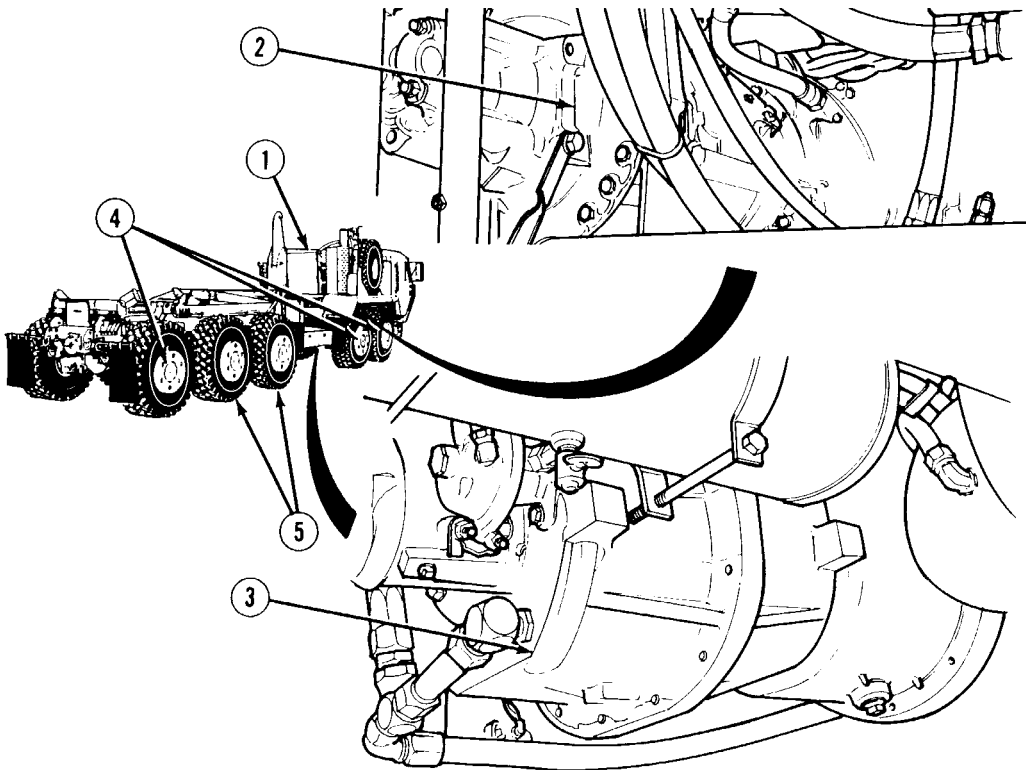

Figure 1-5. Power Train
Power for the truck is provided by a diesel engine (1) (Figure 1-5) which is coupled directly to an automatic transmission (2). Power from the transmission is transferred to the transfer case (3) and on to the drive and steering axles (4) and the drive only axles (5) through a series of drive shafts and universal joints. The truck drive train is enhanced through the use of the Detroit Diesel Electronic Control II (DDEC II) or Detroit Diesel Electronic Control III/IV (DDEC III/IV) electronic engine controller and the Allison Transmission Electronic Control (ATEC) electronic transmission controller. The primary components of the ATEC system are an Electronic Control Unit (ECU) and shifter in the truck cab, an electrohydraulic valve module beneath the transmission gearing section that contains solenoid valves for clutch control, a throttle sensor that is activated by the accelerator pedal and an output speed sensor that relays the transmission output speed to the ECU for shifting and control functions.
(1) The DDEC II and DDEC III/IV contain a microprocessor-based electronic control module to regulate the electronic distributor unit. This distributor unit controls the individual or unit injectors that regulate both the amount and timing of fuel delivery. The DDEC II and DDEC III/IV electronically govern engine speed and can be programmed to accommodate truck configuration changes. The DDEC II and DDEC III/IV are electronically linked with the transmission, through the ATEC, to improve truck performance.
(2) The DDEC and ATEC systems perform self diagnostics, engine/transmission system diagnostics and truck performance diagnostics. Self diagnostics includes personnel initiated checks of main electronic components such as solenoids, wiring, sensors and control modules. System diagnostics monitor critical engine and transmission parameters such as oil temperature, oil pressure, coolant temperature, voltage and gear range attained. Truck performance diagnostic capabilities aid the mechanic in isolating problems outside of the electronic control system. Operating data is stored in the DDEC II's and DDEC III's memory for display at a later time. Stored data includes total engine hours and fuel consumed. The DDEC also tracks intermittent problems by logging the number of occurrences and the engine hours of each occurrence.